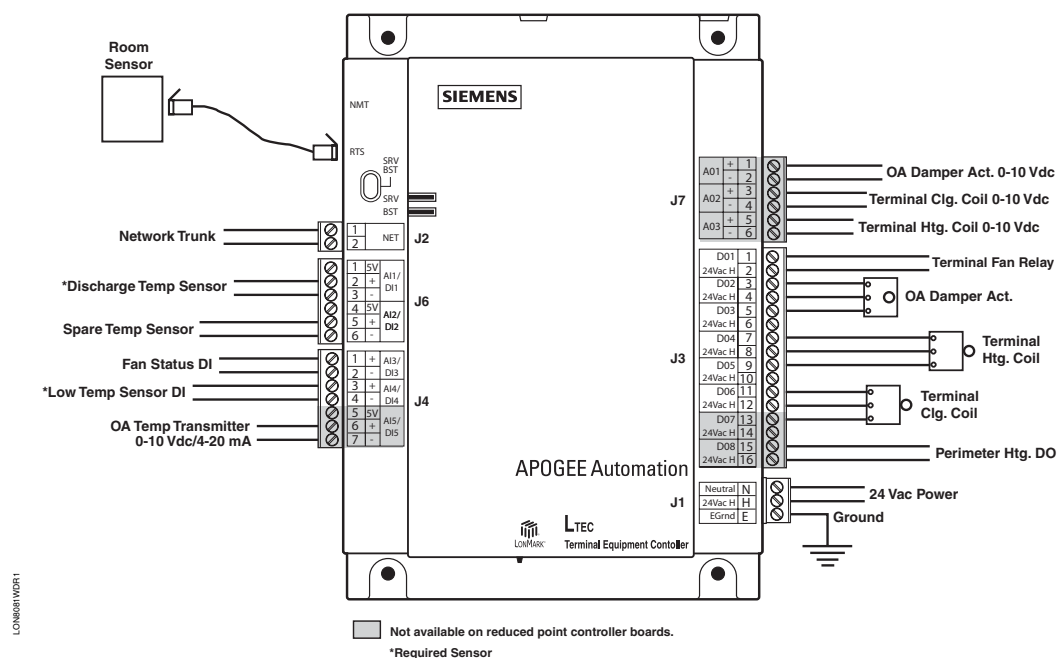
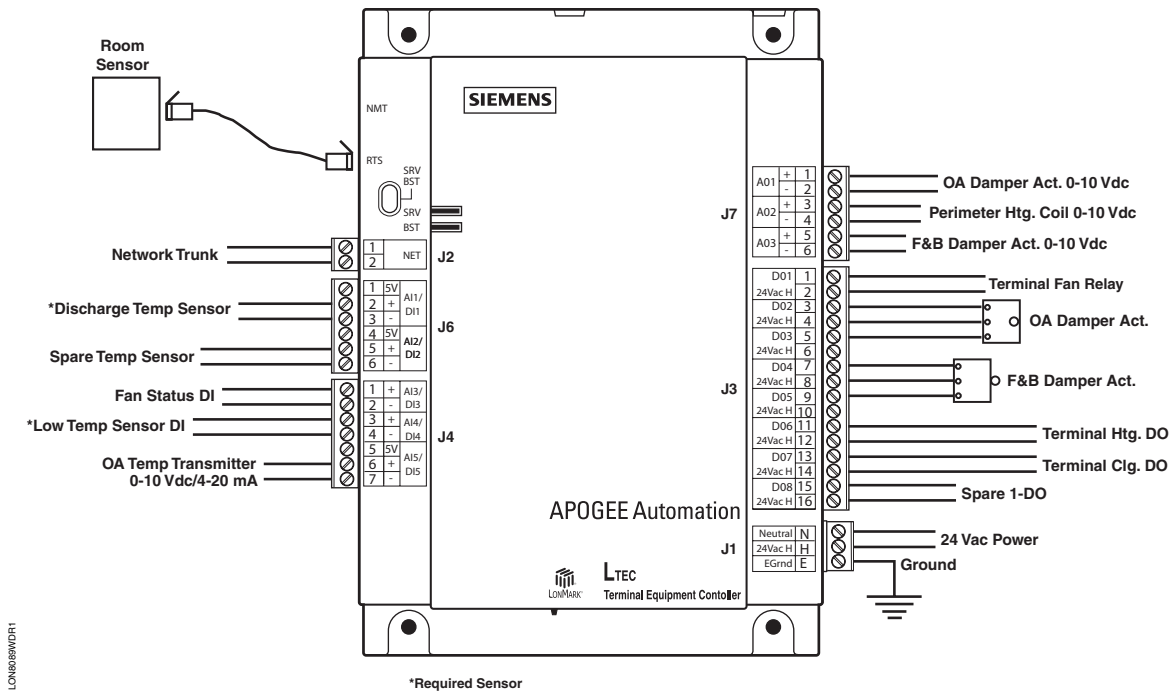

Figure 5. Application 8081 – UV-CW 4-pipe Cooling/Heating (550-540 or 550-542).
Figure 9. Application 8089 – UV 4-pipe Face/Bypass, Cooling/Heating. (550-544)
The wiring diagrams (Figure 5 thru Figure 9) are shown using the full point controllers (shaded terminals). Reduced point controllers should be used when the additional input/output points are not required.
3. The location of physical inputs must match a specific application wiring diagram; see Figure 5 through Figure 9.
LTECs have configurable, flexible output ports. Wiring diagrams (Figure 5 through Figure 9) indicate how these outputs are used in each application.